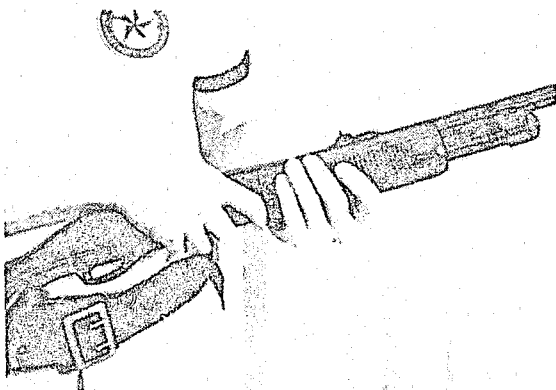

Figure 8-24
D. Unloading - Charged Weapon (round chambered) (See Figures 8-24 through 8-27)